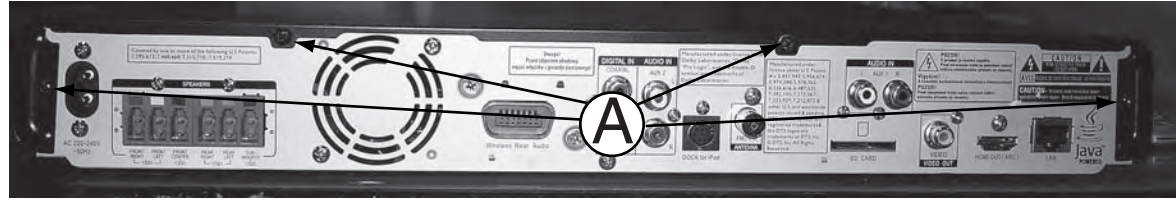

Figure 1
- 4 screws "A" at the back panel as shown in figure 1.